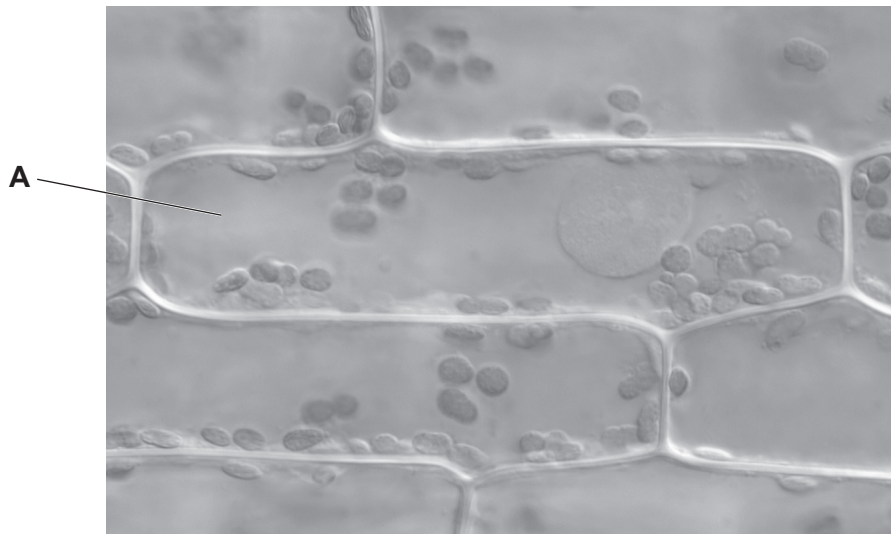

Fig. 2.1
- 2 Fig. 2.1 is a photomicrograph showing several cells from an *Elodea sp.* aquatic plant.
- (a) (i) Draw a large diagram of the cell labelled **A** in Fig. 2.1.